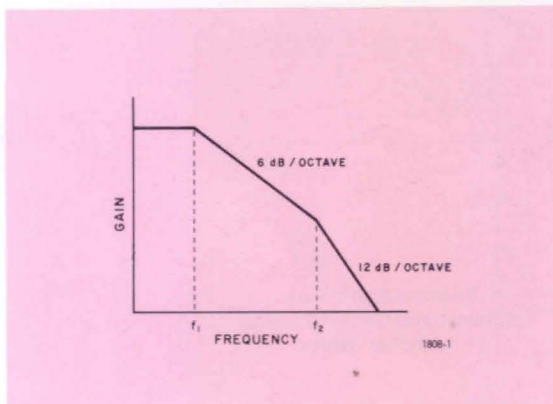

Figure 1. Typical open-loop frequency-response curve.
- Most operational amplifiers have the open-loop frequency-response curve shown in Figure 1. Quite often it is desired to know the frequency, f_2 , where the second breakpoint occurs in order to maximize the design stability of the amplifier.